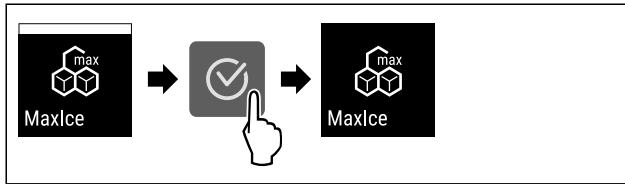

Fig. 20
- ▶ Complete the steps (see Fig. 20) .